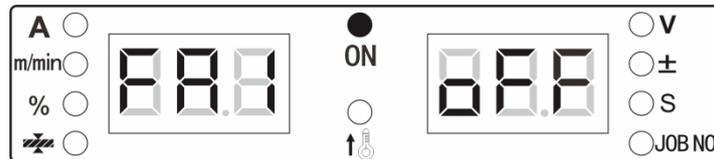

Fig. 4-2 FA1 display interface
1. Enter the internal menu and find **FA1** by turning the knob. The digital meter is as displayed in Fig. 4-2.